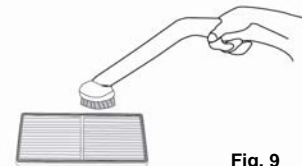

Fig. 9
3. To clean the permanent HEPA-Type filters, use a vacuum with a brush attachment **only**. Vacuum the dirty side of the filter **only** and in between the pleats of the permanent HEPA-Type filters carefully. (Fig. 9)